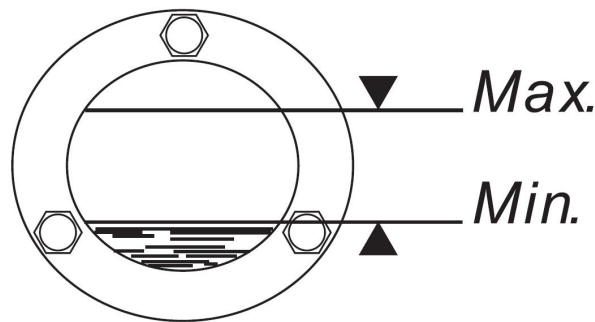

Figure 12-1 Oil level range
- d. Control the amount of lubricant in the range of the horizontal position as shown in Figure 12-1;